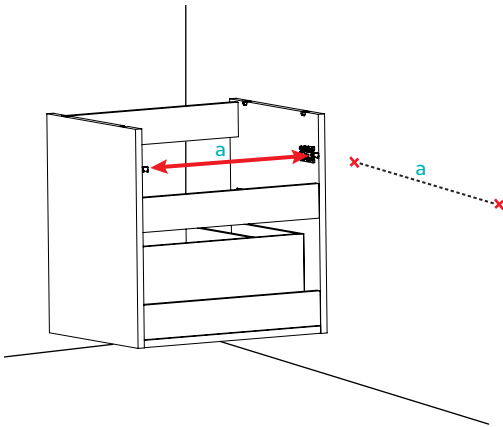

Fig. 2
3. Measure the spacing on the back of the unit, between the two inner sides of the carcass (*Fig. 2*) this is the maximum bracket spacing. Measure the required mounting point height taking into account the basin to be used.
4. Transfer measurements onto wall using a spirit level to ensure they are straight and level and spaced correctly *as per Fig. 2.*